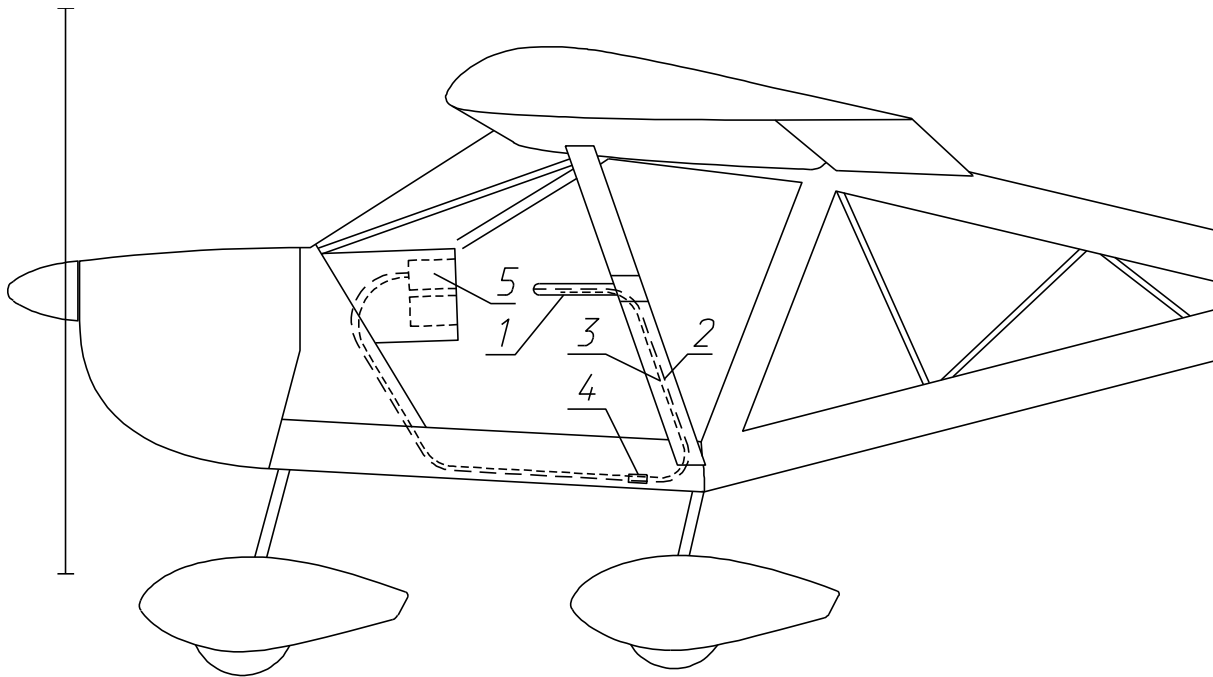

Fig. 9 Full and static pressure system
The full and static pressure system (see Fig. 9) supplies the full (dynamic) and static pressure of the outside air to the instruments measuring the flight parameters: airspeed, rate of climb and altitude. The system consists of the full and static pressure probe (1) and full (2) and static (3) pressure lines connecting the probe to the instruments. Full and static pressure lines have joints (4) for disconnecting the lines when the left wing is removed during aircraft disassembly.